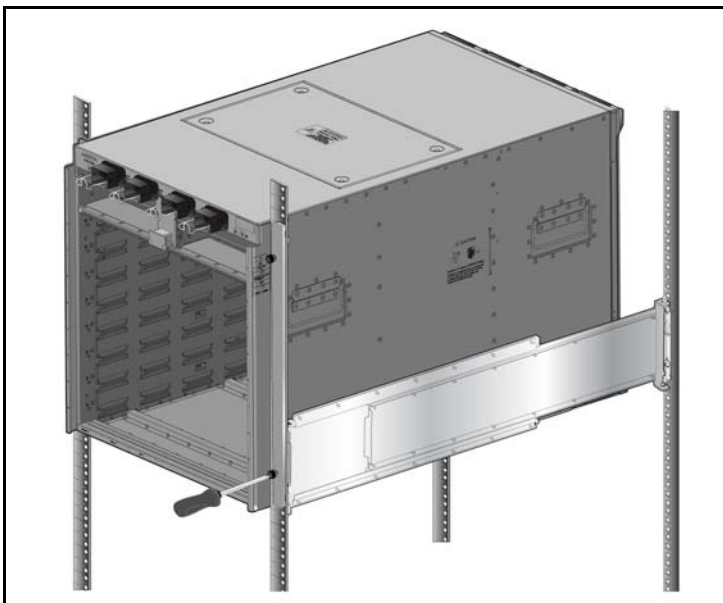

Figure 10: Inserting the Switch onto the Rack Shelf
Step 3 Secure the chassis by tightening the four thumbscrews on the front flanges into the rack posts (Figure 10).